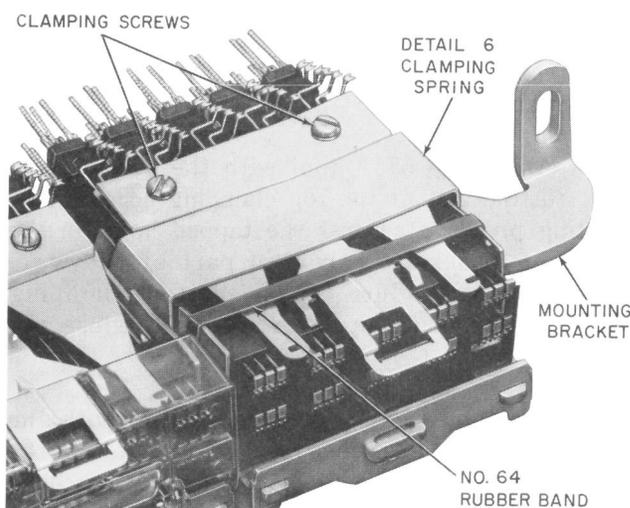

Fig. 20—Clamping Spring and No. 64 Rubber Band in Place on Half of Relay
3.57 Slip a clamping spring (Detail 6), with the open side facing to the right, over the defective unit and push back with screwdriver until clamping spring comes to rest against clamp plate as shown in Fig. 20.
3.73 Slip a clamping spring (Detail 6), with the open side facing to the right, over the replacement unit and push back with screwdriver until clamping spring rests against the clamp plate. See Fig. 20.